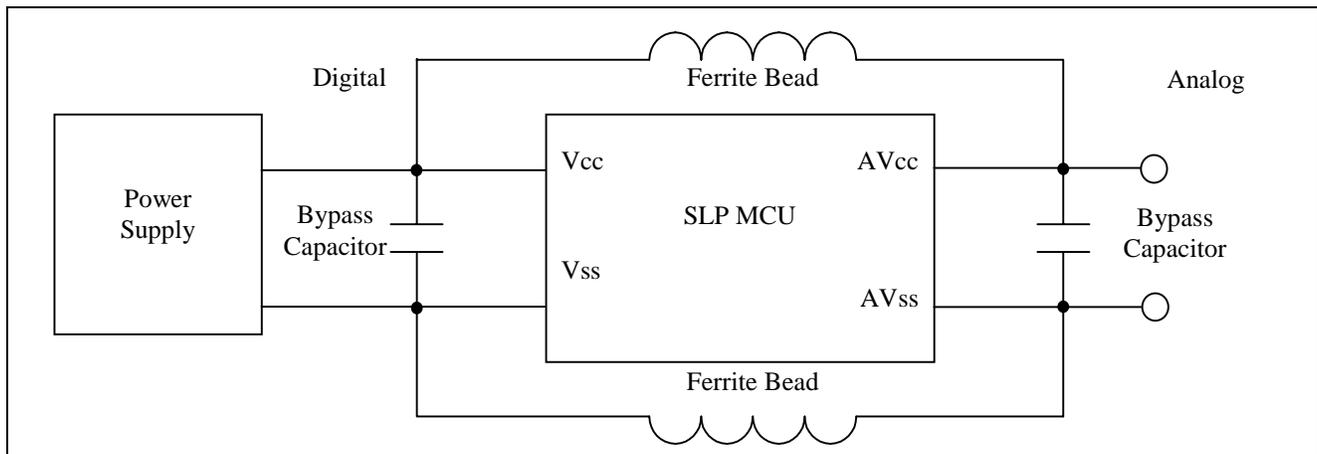

Figure 10 Split Supplies
- A simple method for controlling noise is to have separate supplies for the (i) slower low-current analog functions and (ii) faster medium-power digital functions as shown in Figure 10.